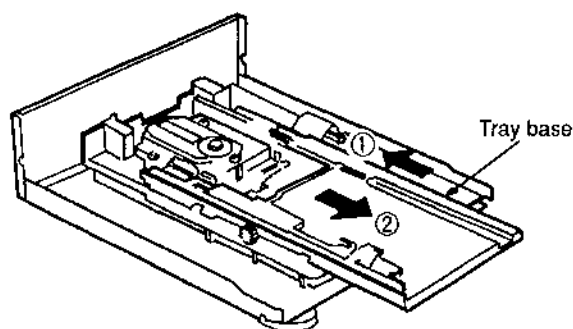

Fig.2
3. After sliding the tray base in the direction of arrow (1), draw the tray base gradually in the direction of arrow (2). (See Fig.2)